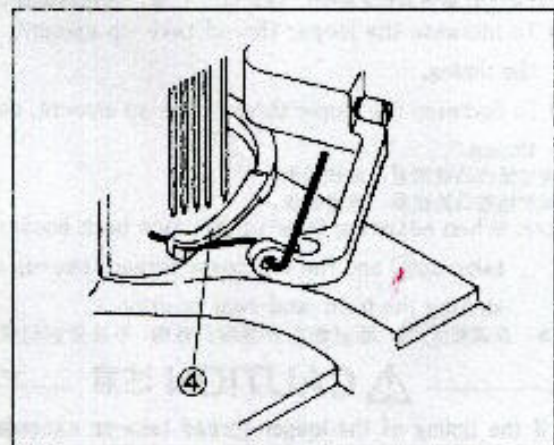

Fig. 63 图63
The moment the top cover thread is hooked with the top cover thread hook ④ (Fig. 63), the thread is held at the point 0 - 1.0 mm apart from the top of the take-up ⑤
此时上盖线被④钩住(图63), 线被保持在离⑤0-1.0mm的正面弧顶, 松开螺钉⑥来调节。